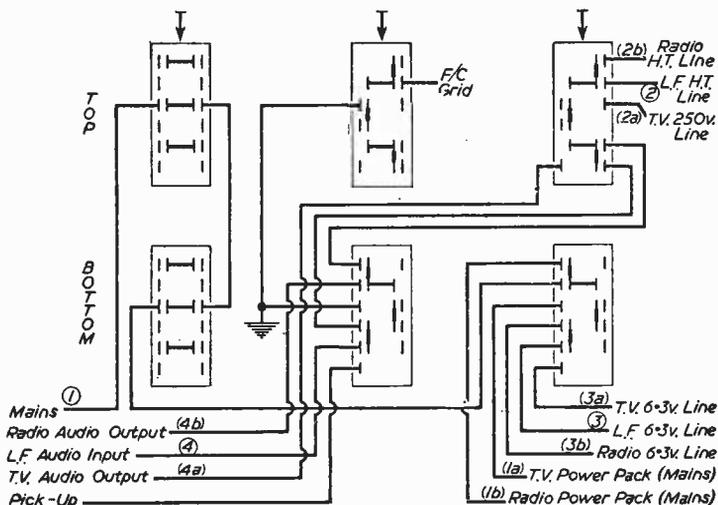

Fig. 7.—Push-button wiring arrangement.
In the system adopted, four buttons are used, labelled "off," "gram," "TV" and "radio." The "off" button has no function other than breaking the mains supply. "Gram" shorts F.C. grid and radio output to earth, and connects the pickup to L.F. audio input (4). The TV switch is the heart of the unit, making all four TV circuits in the depressed position, and all radio circuits in the released position. Fig. 7 gives the wiring diagram of the unit used by the author. The use of push buttons confers an ad-
The radio circuit decided upon is immaterial to the switching problems, but the normal receiver of moderate sensitivity can be built around a two-valve superhet circuit, providing F.C., Osc., I.F. amplifier, detector and AVC. Tuning can be manual, push-button or both. The push-button unit shown in Fig. 7 is a war-time "Premier" 10 button unit, providing originally gram, three wavebands, four M.W. stations and two L.W. stations. It is probable that a large number of these are in the hands of constructors as they were definite bargains when advertised. All but the station selector buttons were stripped of wiring, the first being unused, the shaft being bent back and the escutcheon hole used for a "radio on" indicator bulb. If a four-way unit is used, manual tuning can be incorporated, or one of the new 4-station rotary turrets would enable a very compact unit to be assembled.